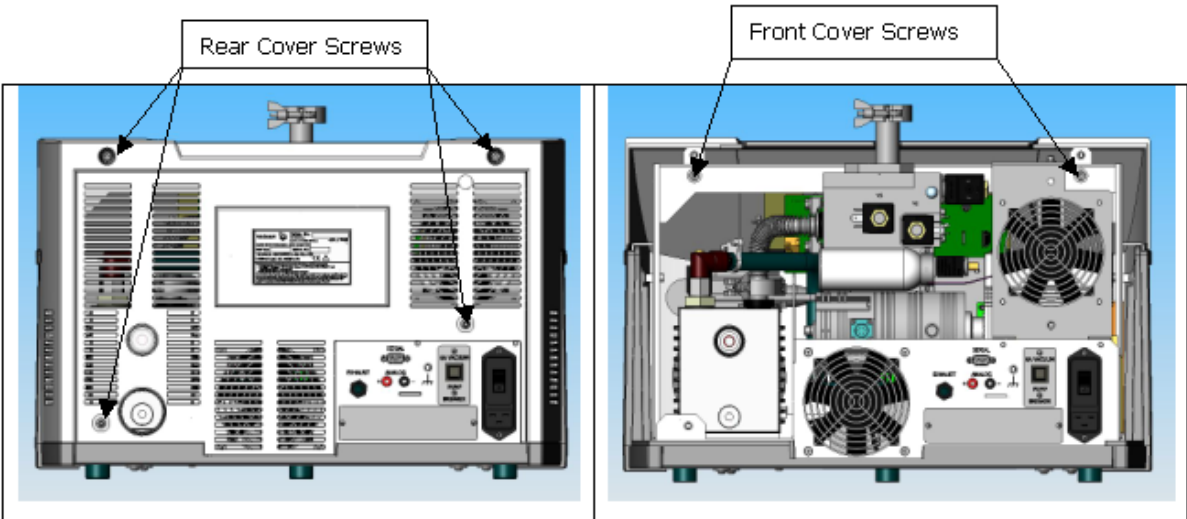

Figure 1: Rear and Front Cover Screws
3. Using an extended length M5 Allen wrench, remove the four screws holding the rear plastic cover (“Figure 1: Rear and Front Cover Screws”) and detach the rear plastic cover from the unit.
4. Remove the four screws holding the front plastic cover and detach the cover from the unit. Two screws are situated at the front of the unit (not shown) and two screws are positioned inside the unit (“Figure 1: Rear and Front Cover Screws”).